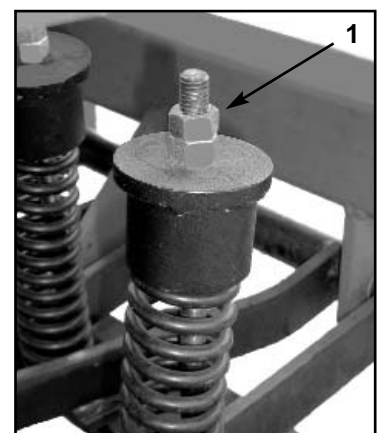

Fig 2
A more consistent sowing depth is achieved with minimal dragbar deflection. With harder ground conditions more spring pre-compression may be required. Adjust the M10 plain nuts (1) as desired. Refer Fig 2. Note, less spring pre-compression will allow the disc to ride over rigid obstacles, eg stones.